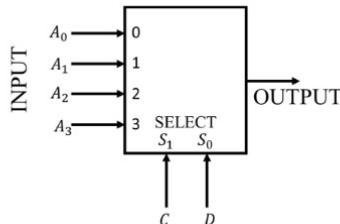

Fig. 4.32: MUX
58. Consider the 2-bit multiplexer (MUX) shown in Fig. 4.32. For OUTPUT to be the XOR of C and D, the values for A_0, A_1, A_2 and A_3 are _____. (GATE EC 2022)